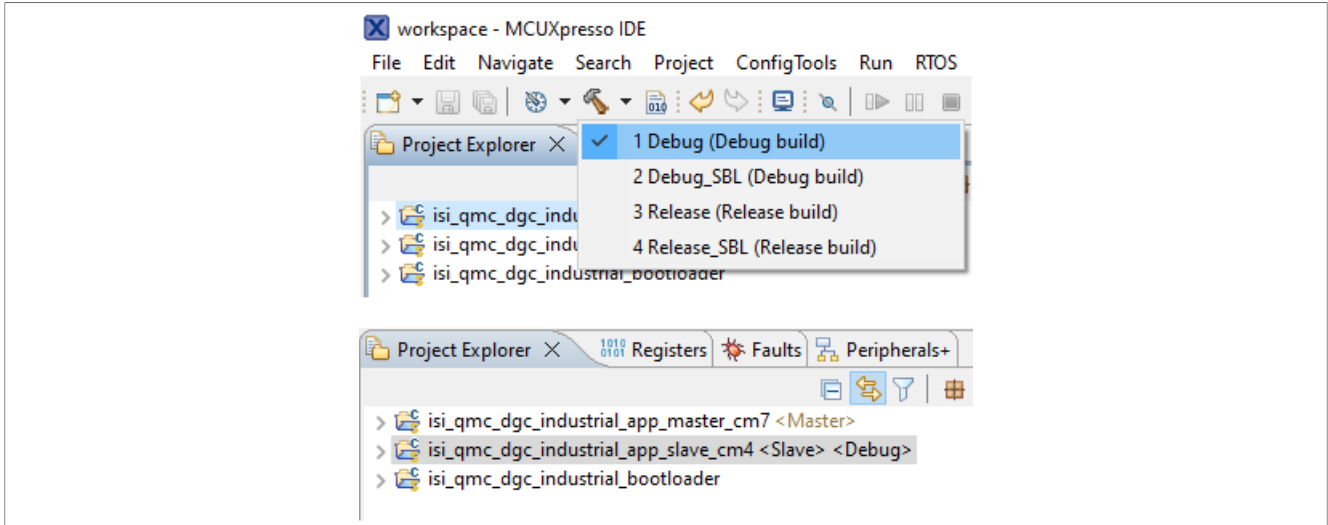

Figure 42. Build the `isi_qmc_dgc_industrial_app_slave_cm4` project
1. Build the *isi\_qmc\_dgc\_industrial\_app\_slave\_cm4* project, as shown in Figure 42: